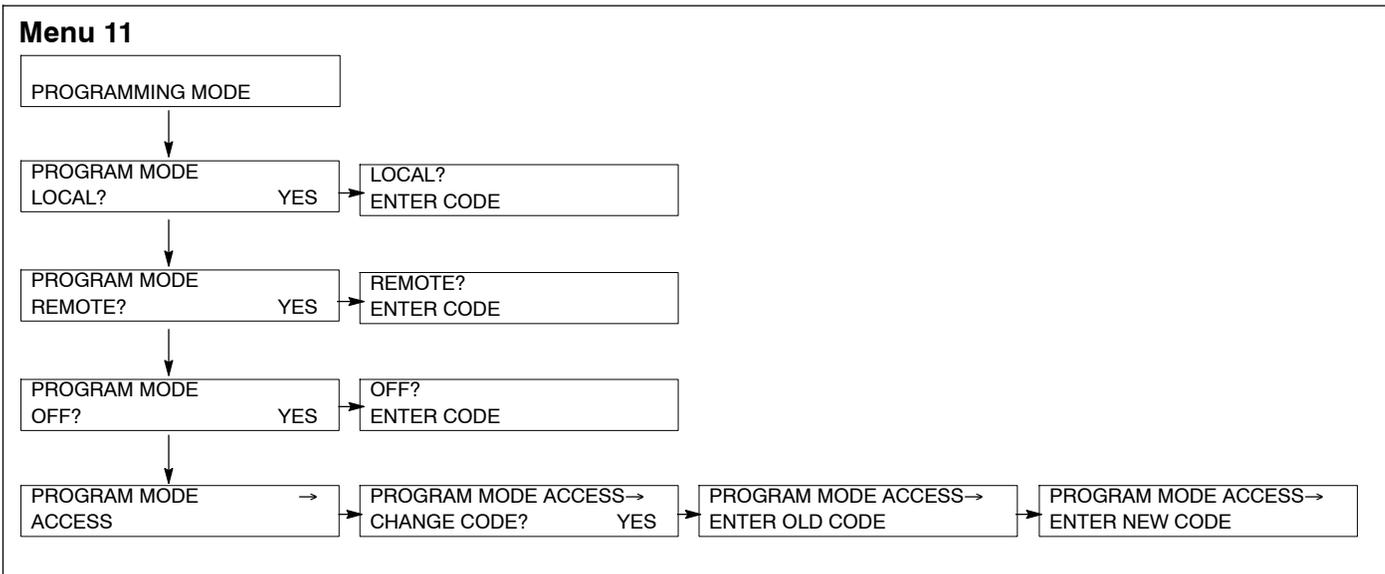

Figure 9 Menu 11, Programming Mode
10.1 Press the Reset Menu key, enter 11, and press the Enter key to go to Menu 11, Programming Mode. See Figure 9.